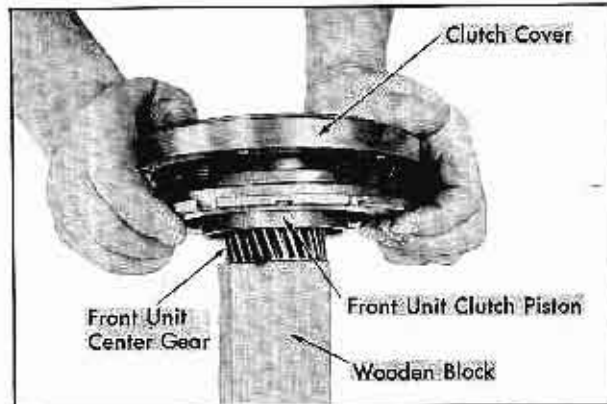

Fig. 14-31 Removing Front Unit Clutch Piston
3. Remove front clutch annular piston from clutch drum by bumping front face of center gear on soft wood block. Fig. 14-31.